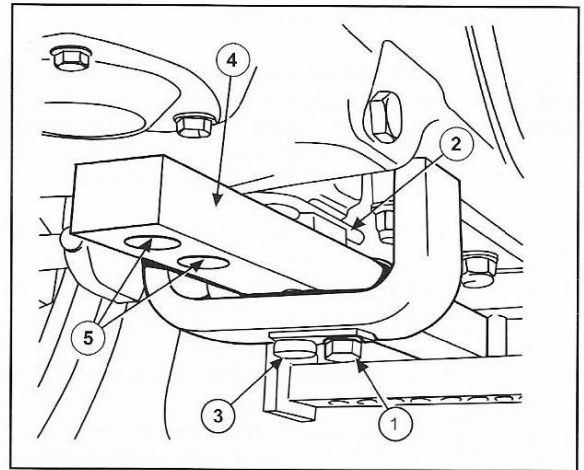
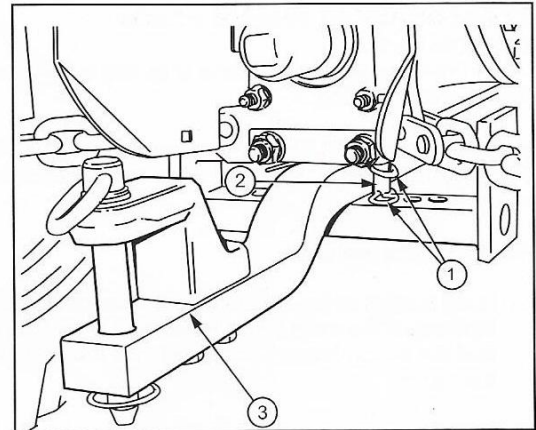
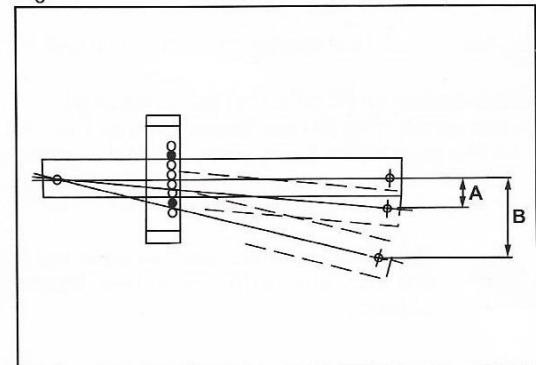

Fig. 59
Fig. 61
Fig. 62
This type of swinging (Fig. 59 to Fig. 62) drawbar cannot be converted for use with an automatic trailer hitch.
To adjust the drawbar for length (see Fig. 59) proceed as follows:
The drawbar (Fig. 61 and Fig. 62) may be fixed in any one of five positions or allowed to swing the full width of the frame. The maximum lateral swing is 240 mm (9.5 in).
**To change the position drawbar (Fig. 61)**
1. Remove the four 'R' clips (1)
2. Remove the two limit pins (2)
3. Reposition the drawbar (3), see Table 4, and refit the pins and 'R' clips, or leave it free to swing. Store the pins and 'R' clips in the tool box when not in use.
Drawbar off- set when in the centre hole (Fig. 62): Allow the drawbar to swing when pulling ground engaging equipment which does not require accurate positioning. this will make steering and turning easier.